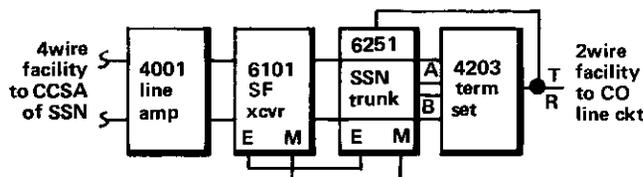

figure 2. Typical SF application, 4wire to 2wire
2.06 On the CO side, the 6251 makes connection to the line circuit via the tip, ring, A, and B leads of an associated transmission device – usually a terminating set (Tellabs 420X) or repeat coil (Tellabs 442X). Figure 2 shows a typical arrangement.